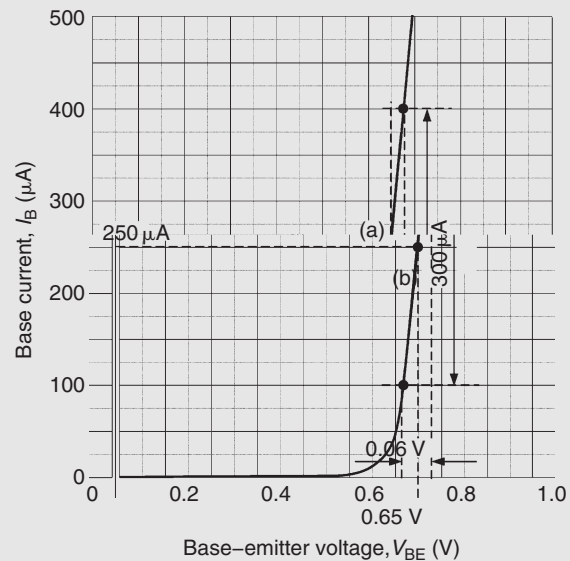

Figure 12.13
Problem 3. Fig. 12.13 shows the input characteristic for an n-p-n silicon transistor. When the base-emitter voltage is 0.65 V, determine (a) the value of base current, (b) the static value of input resistance and (c) the dynamic value of input resistance.
- (a) From Fig. 12.13, when $V_{BE} = 0.65\text{ V}$, **base current, $I_B = 250\mu\text{A}$** (shown as (a) on the graph).
- (c) From Fig. 12.13, V_{BE} changes by 0.06 V when I_B changes by $300 \mu\text{A}$ (as shown by (b) on the graph). Hence,